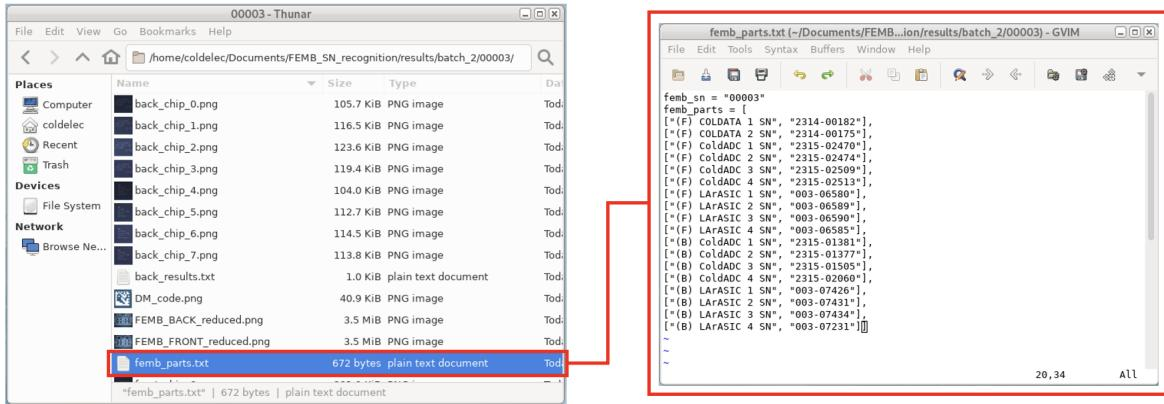

Figure 19: Checking the `femb_parts.txt` file one last time before sending the records to HWDB.
- As a final visual test, which could be optional, you could open each of these `femb_parts.txt` and make sure that the information in there matches each of the chips (Figure 19).